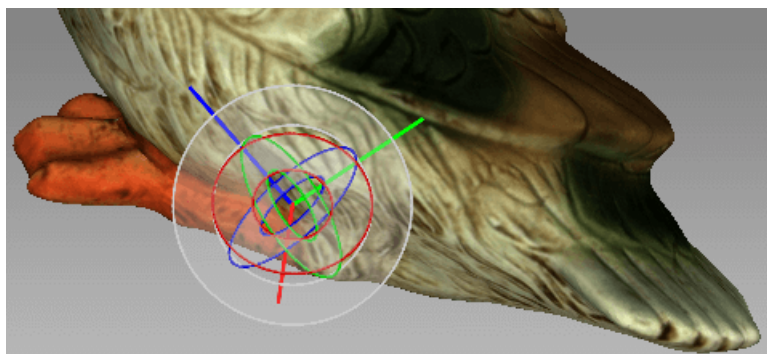

Figure 126: Rotation control
- Drag one of the three circles (see Figure 126) to rotate the object. Hitting the key that corresponds to the required axis (X, Y or Z) will hide the controls for the other axes.